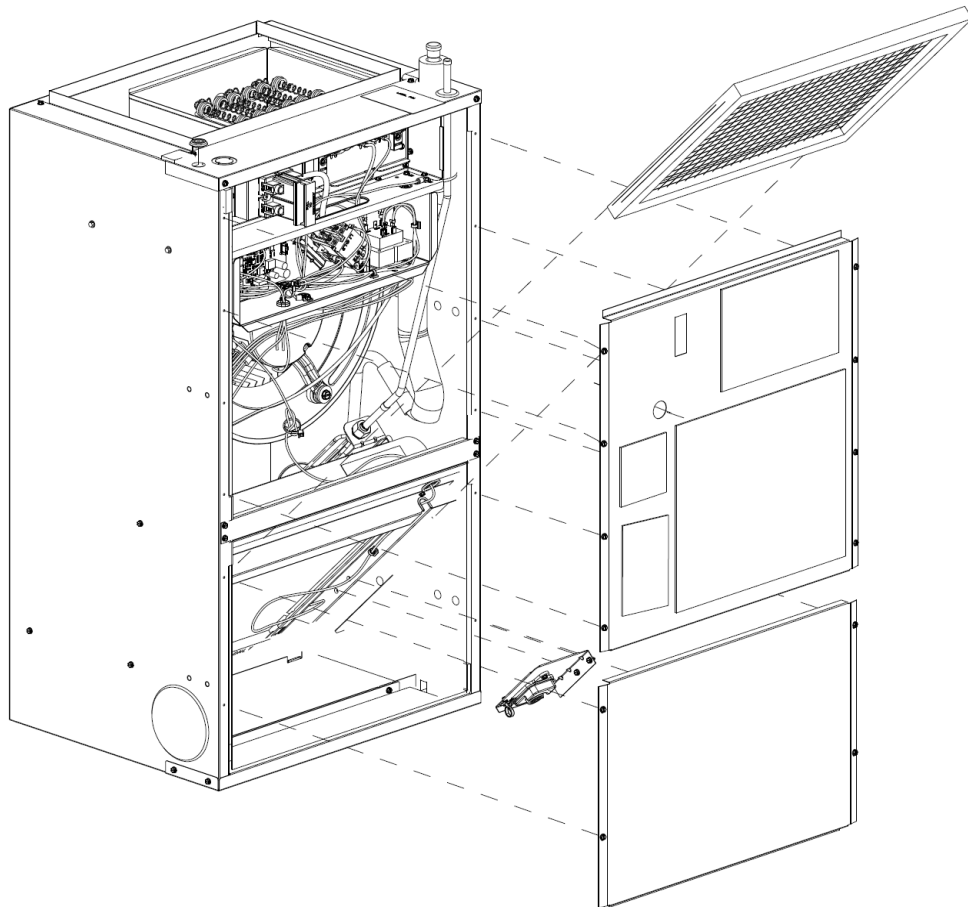

Figure 7
- Remove the front bottom panel by unscrewing the 4 screws shown in figure 7 (In some cases it might have already been removed due to front return setup. Skip this step if that's the case).
- Mount the front bottom panel by screwing the 4 screws shown in figure 7 (In some cases it might have already been removed due to front return setup. Skip this step if that's the case).